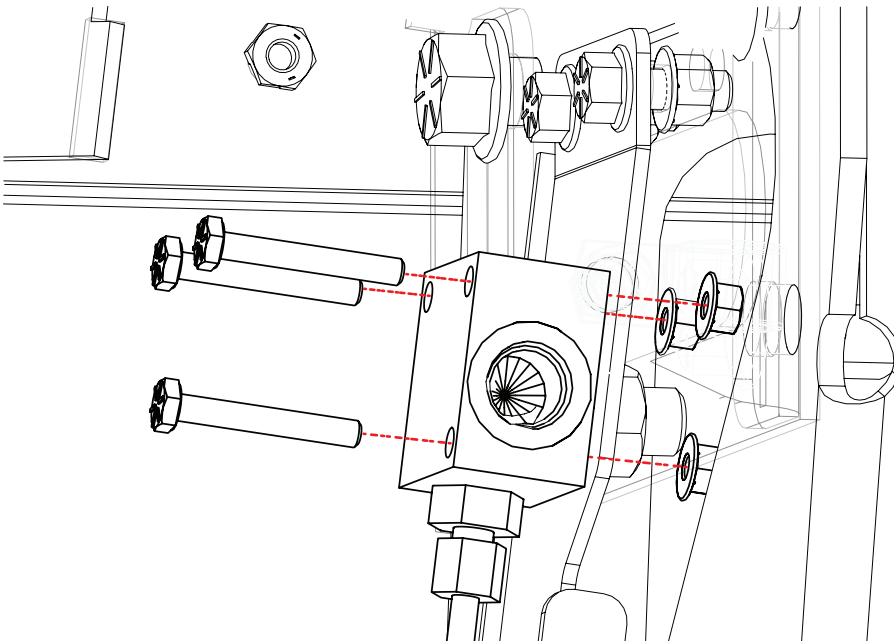

Figure 13: Remove and retain the three bolts and nuts that secure the PRD block to the bracket.
5. Remove and retain the (3) bolts and nuts that secure the PRD block to the bracket (Figure 13).